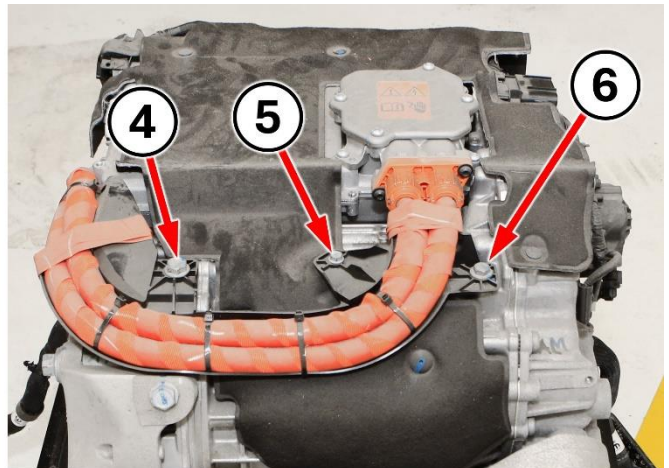

Figure 35 – EDM High Voltage Wire Harness
73. Remove the six fasteners securing the high voltage wire harness to the EDM (Figure 35).